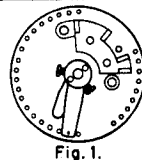

Fig. 1.
1. Rotate Contact Wiper Arm on Motor Assembly to position shown in Fig. 1.
1. Rotate Contact Wiper Arm to position shown in Fig. 1.